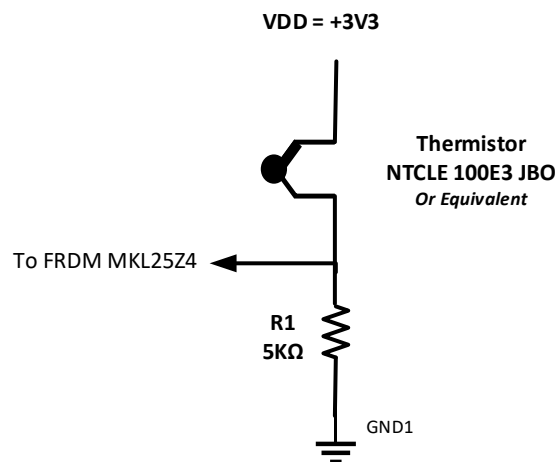

Figure 1.
1. For this problem, refer to Listing 6.5 and 6.6 in Chapter 6 of the Textbook *Embedded Systems Fundamentals* as a guide. Build the circuit in *Figure 1* and utilize the FRDM-KL25Z Development Board and associated peripherals to measure the temperature from the sensor and convert the sensed data to a digital value and display the values utilizing two (2) Seven Segment LED's.